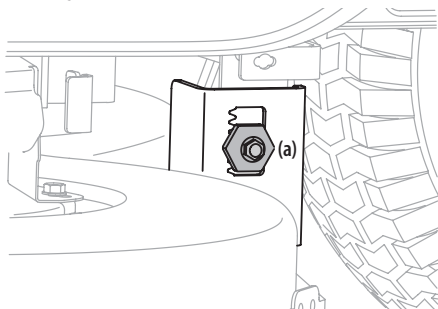

Figure 28
3. Under the rear fenders inside the wheels there is a lift adjustment hex cap screw and gear for each side of the deck. See Figure 28.
4. Loosen, but do NOT remove, the hex cap screw (a) on the left deck hanger bracket. See Figure 28.
6. When the proper adjustment is achieved, tighten the hex cap screw (a) on the left deck hanger bracket. See Figure 28.